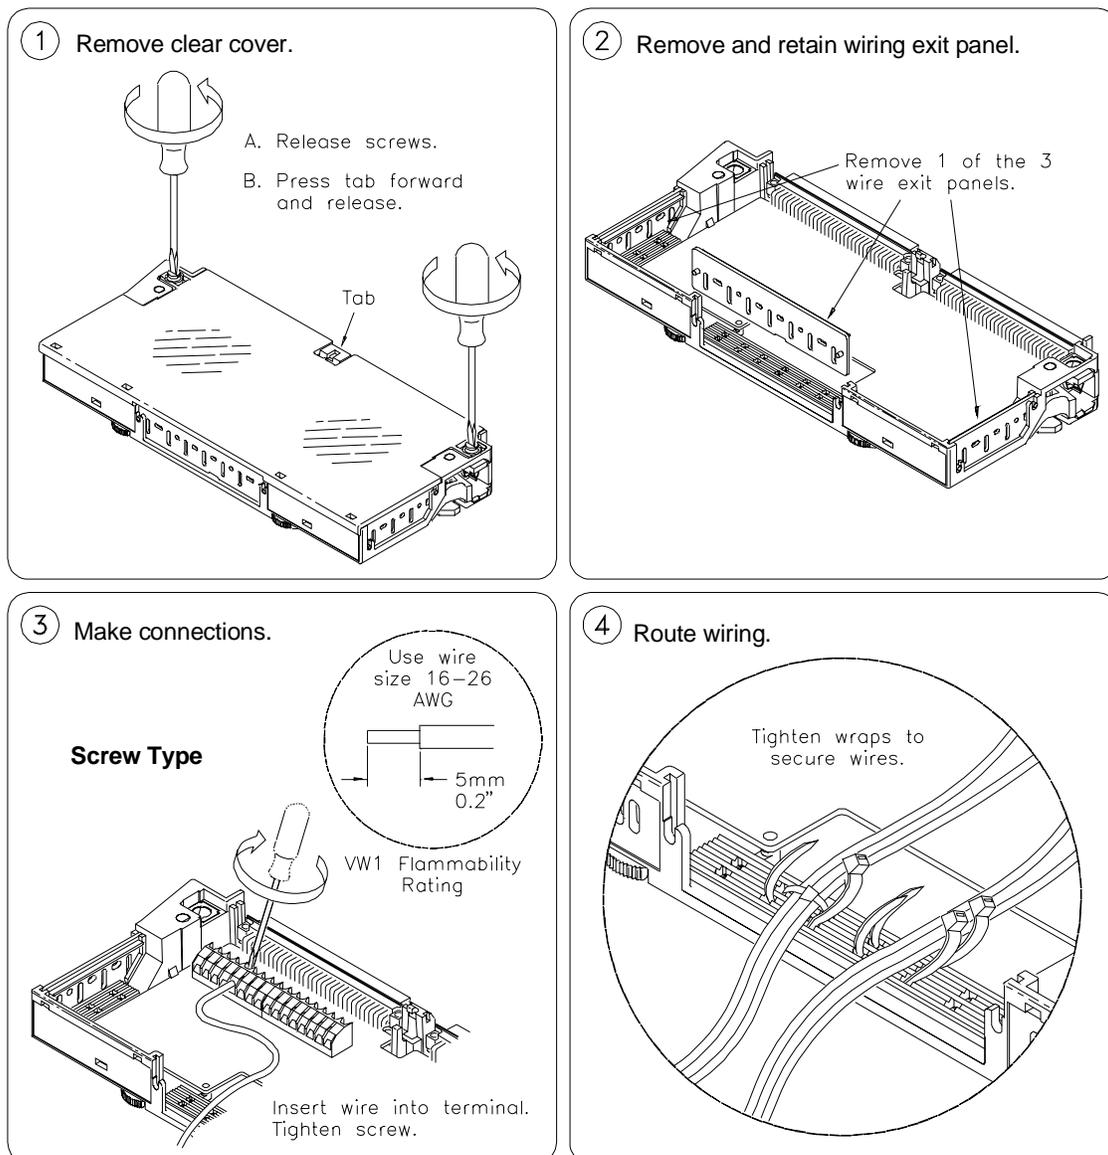

Figure 2-4. Wiring the Standard Terminal Module
User wiring to the matrix modules are to the High (H) and Low (L) terminal connections. Figures 2-4 and 2-5 show the rudiments of the terminal module assembly. Expansion connectors allow for creating larger matrices (see later in this chapter). For information on the E1467A Option 211 Matrix Expansion Terminal Module, see the section dedicated to that product later in this chapter.